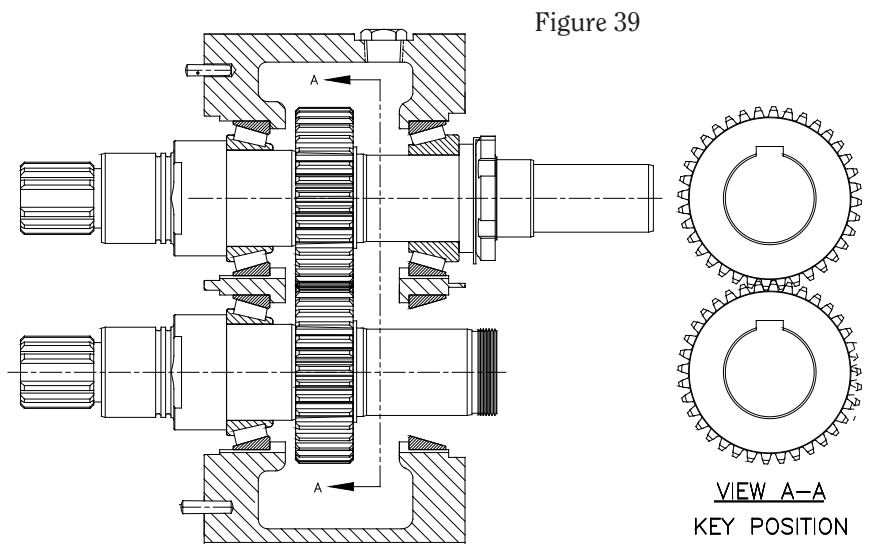

Figure 39
- h) Repeat steps A – G with the other shaft. Be sure to align the key ways to 12 o'clock as shown in Figure 39 and also be sure that the part numbers on both gears face the bearing lock nut end of the gearbox. This will ensure proper timing.